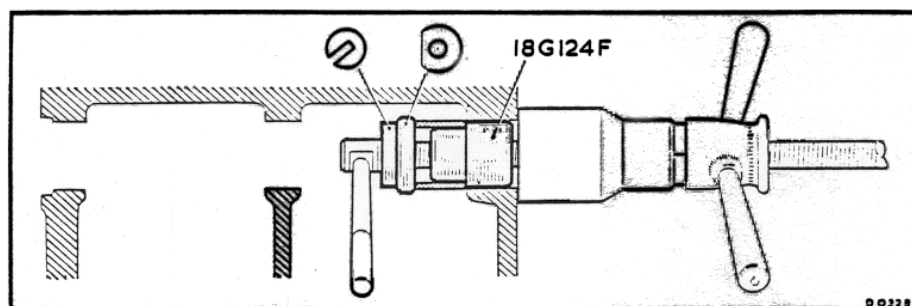

Fig. 4
4. Fit a new front bearing liner, using the tools shown in Fig. 4, and lining up the oil holes in the liner with those in the crankcase.